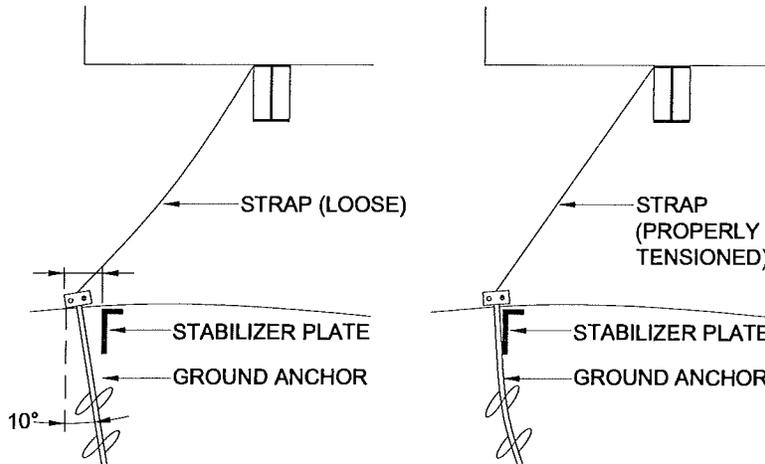

Figure 57. Determining anchor and stabilizer plate location
Stabilizer plate configurations (Figure 57) are suitable for homes in all wind zones. Anchors may be installed after the home is set. A stabilizer device, typically an ABS or metal plate, is used to prevent the top of the anchor from slicing through the soil when the load is applied. Stabilizer plates are available in a variety of widths. Choose the widest plate that can be driven into the soil to maximize resistance to movement. The LAHJ may have stabilizer plate requirements.
1. **Measure.** To determine the stabilizer plate location, measure from the top of the I-beam to the ground directly under it and then use the same measurement directly away from that point under the beam (**Figure 57**). The anchor and plate must be under the home, but within six inches of the exterior wall for a near beam set and ten inches minimum from the exterior wall for a far beam set. Be careful not to place in a location that will interfere with skirting.